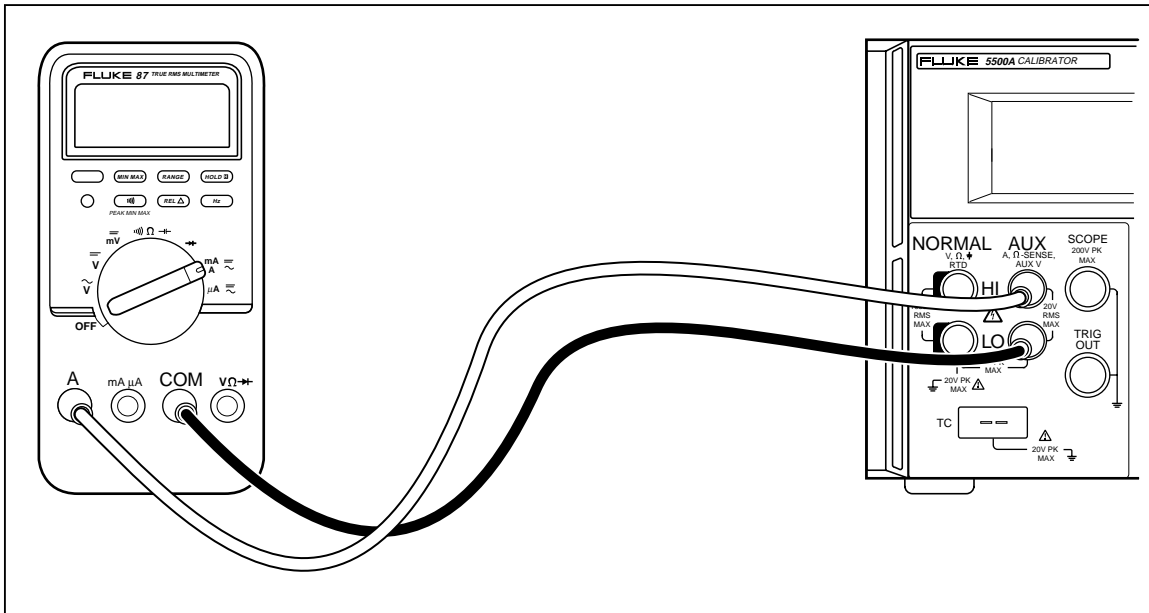

Figure 4-17. Cable Connections for Testing an 80 Series High Amps Function
- b. Verify that the calibrator is in standby and connect the DMM as shown in Figure 4-17.